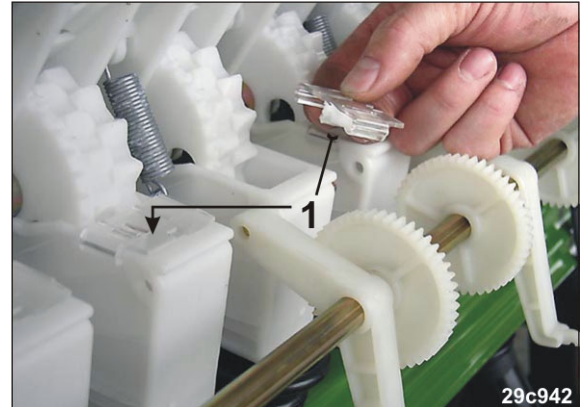

Fig. 246
2. Mark new tramline seed metering wheels by inserting the fine seed metering wheel brushes (Fig. 246/1) onto the new tramline seed housings.